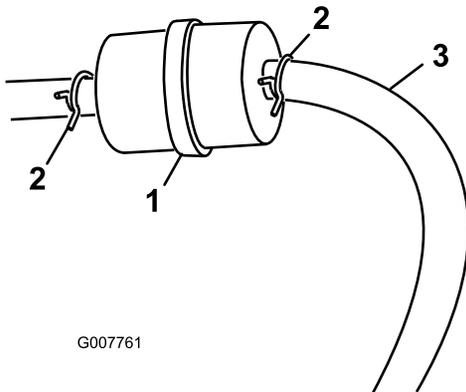

Figure 30
3. Squeeze the ends of the hose clamps together and slide them away from the filter (Figure 30).
5. Install a new filter and move the hose clamps close to the filter (Figure 30).
3. Loosen the hose clamp at the fuel filter and slide it up the fuel line away from the fuel filter (Figure 30).
4. Disconnect the fuel line from the fuel filter (Figure 30).
Note: Allow the fuel to drain into a fuel container or drain pan (Figure 30).
5. Install the fuel line onto the fuel filter. Slide the hose clamp close to the fuel filter to secure the fuel line (Figure 30).